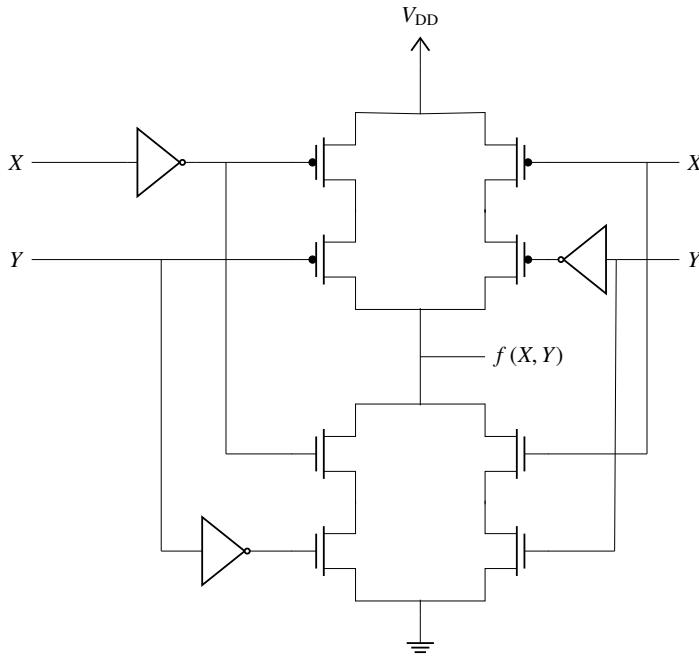

Fig. 3.34
53. The logic function $f(X, Y)$ realised by the given circuit in Fig. 3.34 is (GATE EC 2018)